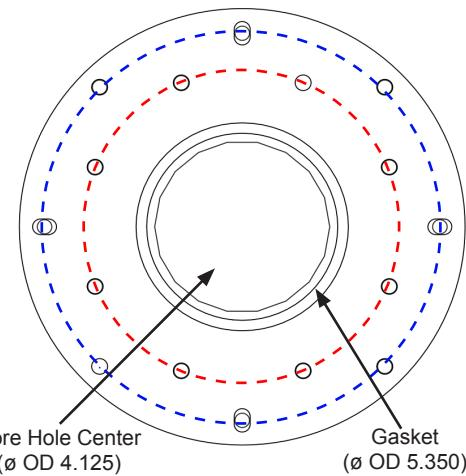

Figure 3: Flange Bolt Pattern Outside Tank
STEP 2: Attach the Float Arm Assembly to the Dish Assembly with provided bolts and nylock nuts. **(See Figure 3 & 4)**